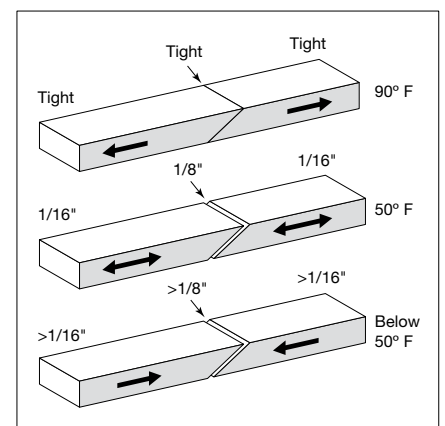

Fig. 3
- On cold days (temperatures below 50° F), increase expansion space between boards to slightly more than 1/8" per 18' length (**Fig. 3**).
- On hot days (temperatures at or above 90° F), eliminate the expansion space and butt the pieces together tightly (**Fig. 3**).